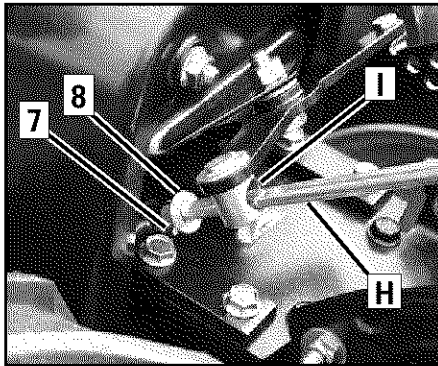

Figure 2-6: Install Reverse Clutch Control.
2. Insert the end of the lever (H, Figure 2-6) through the hole in the pivot (I). Note there are two small holes in the lower end of the lever.